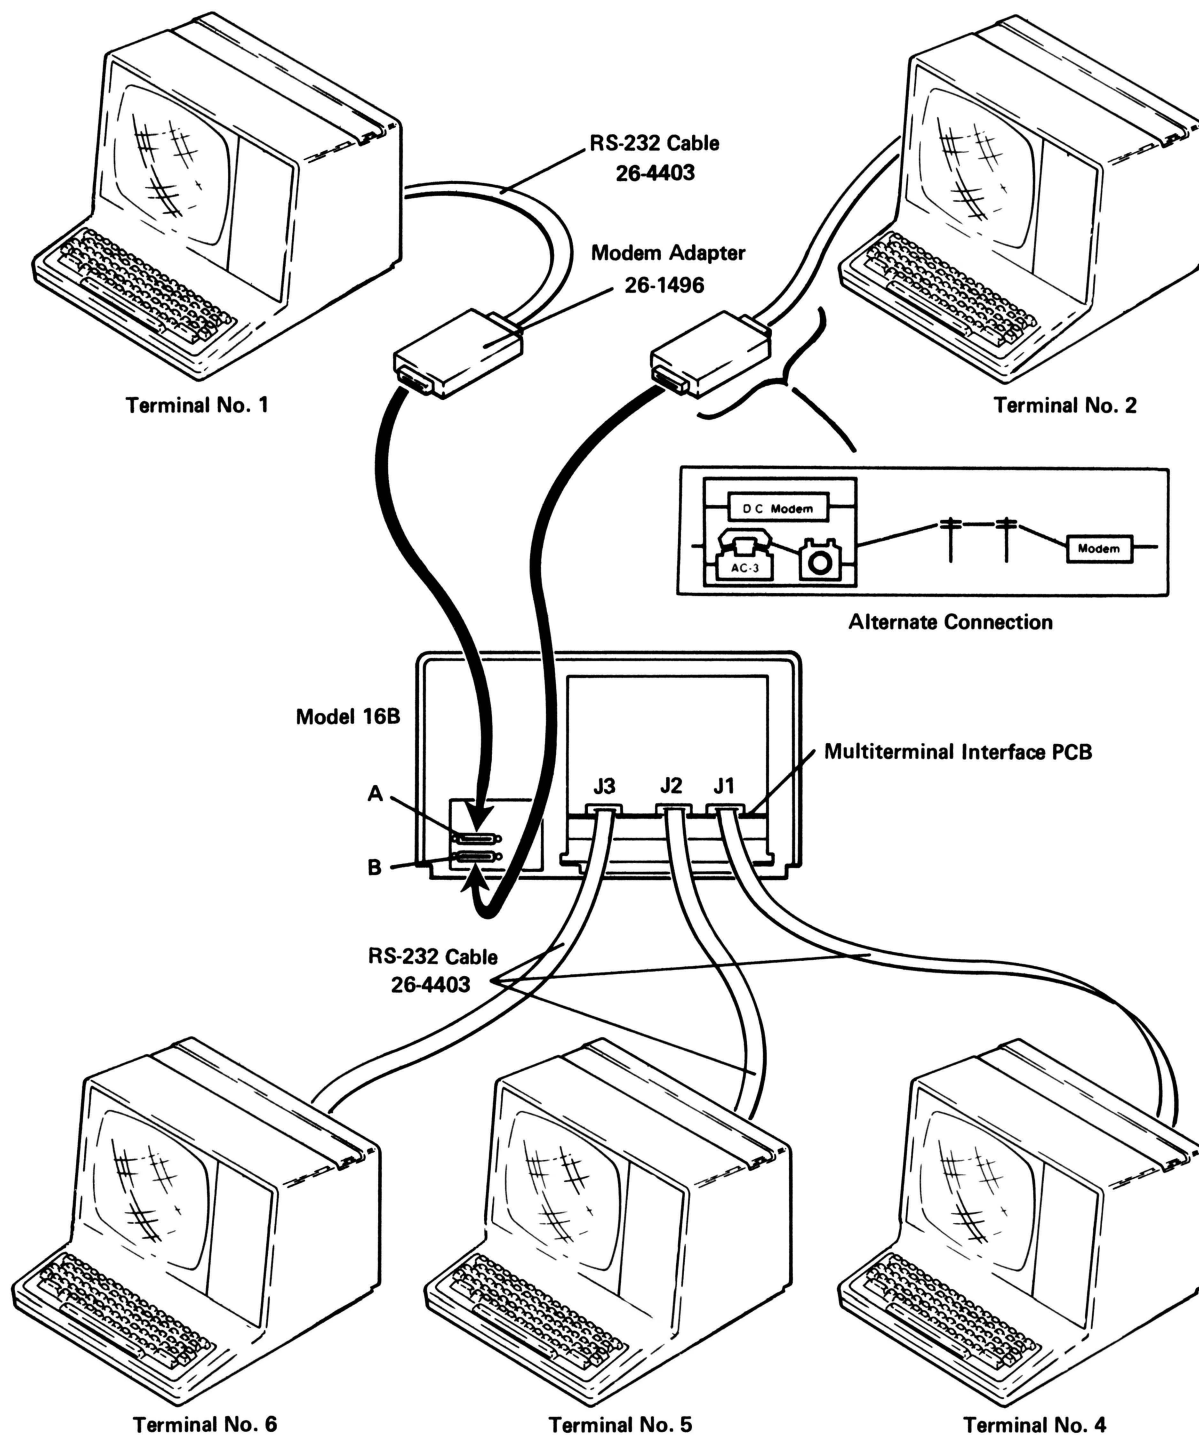

Figure 2-3. Typical Installation, Multiterminal Interface Board
2.4. Connecting A Terminal To The Computer (see Figure 2-3)